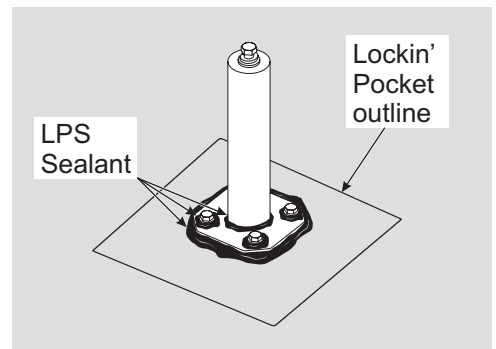

Figure 2-2: Apply LPS Sealant to Super Post Base Plate & Hardware
- C. Using LPS sealant, seal the perimeter of the Super Post base plate, the base of the Post where it meets the base plate and also around the attaching hardware. (See Figure 2-2)